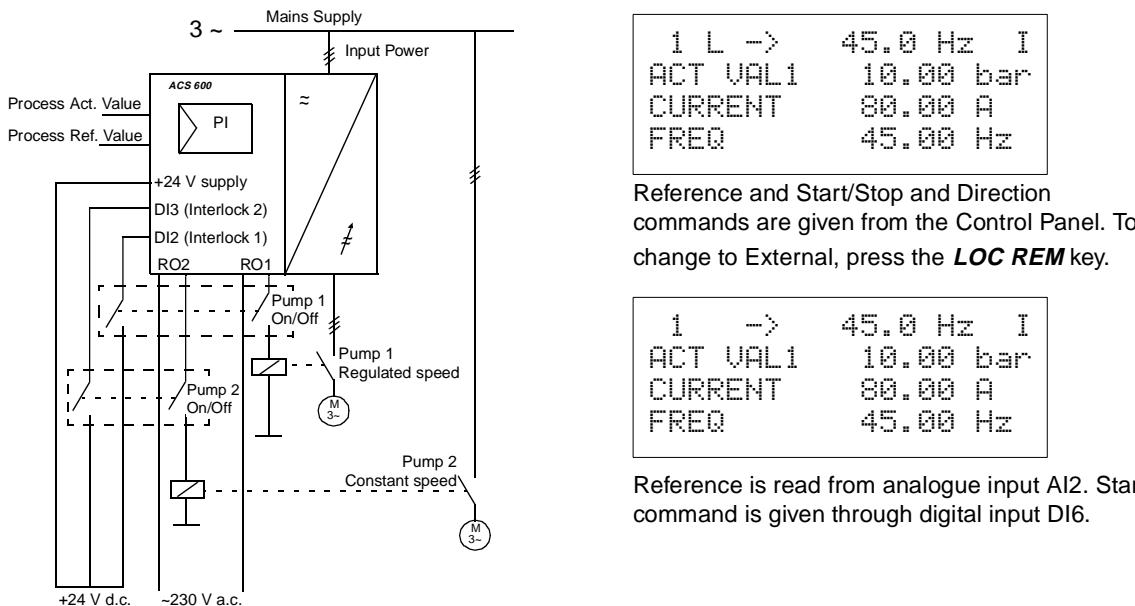

Figure 5-1 Operation Diagram for the Pump and Fan Control (PFC) Macro. Notice, that automatic pump alternation is not in use with the default settings.
- The PFC macro makes automatic pump alternation possible (not in use in *Figure 5-1*). Thus each pump can be run with an equal duty time. For more information on the alternation system and the other useful features such as Sleep function, Constant reference value, Reference steps and Regulator by-pass, see *Chapter 6 – Parameters* (Group 81 PFC Control).